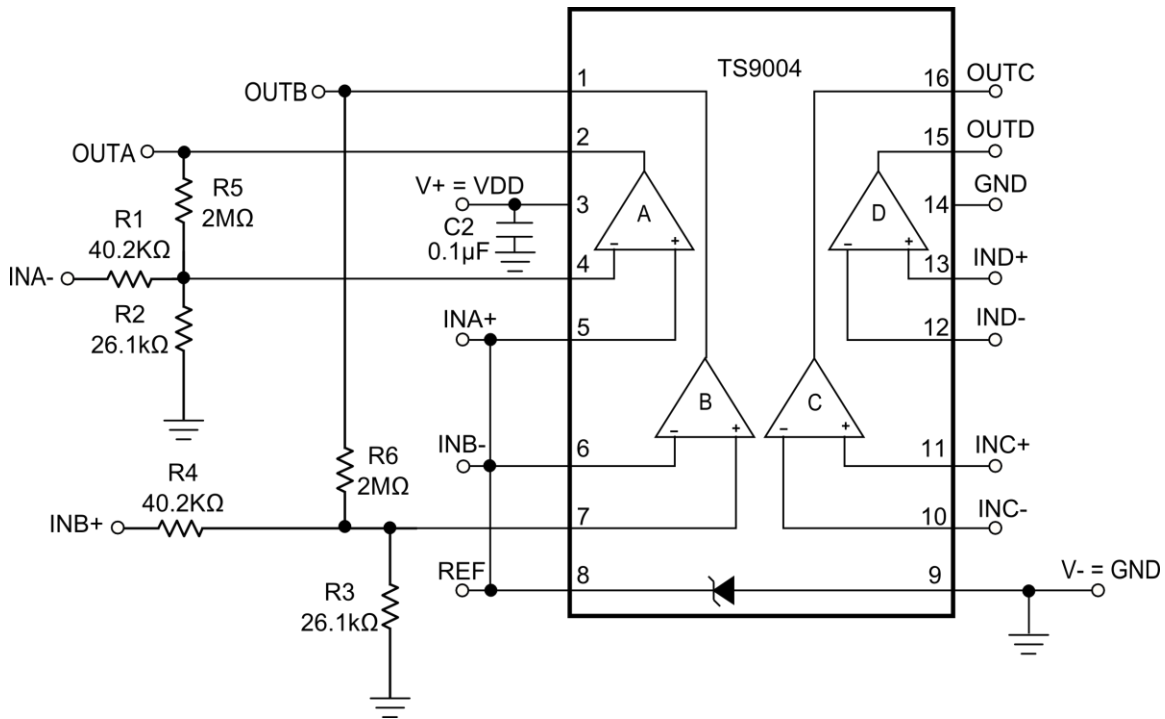

Figure 3. TS9004 Demo Board Circuit
The demo board provides a configuration where only three resistors are required to set the hysteresis band, V_{HB} , as shown in Figure 3. Adding comparator hysteresis creates two trip points: V_{THR} (for the rising input voltage) and V_{THF} (for the falling input voltage). The hysteresis band (V_{HB}) is defined as the voltage difference between the two trip points.
- 12) Evaluation of comparator C and D can be performed on the TS9004 demo board. Access to the input and output of comparator C and D is available as shown in Figure 3.